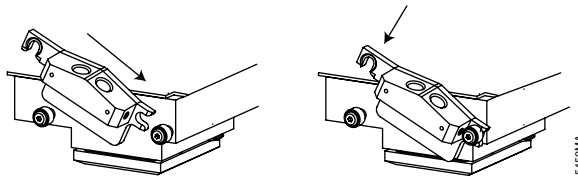

Figure 22. Replacing the injector tip holder.
10. Return the injector tip holder to the optical head. Position the holder just above the front pins on the optical head. Push the holder toward the right to lock the holder securely to the right pin of the optical head. Then push down and lock the holder on the left pin (Figure 22).